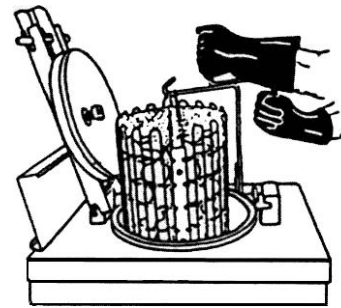

FIGURE 19
DANGER: Use safety gloves and basket drain hook to lift basket out of cooking oil and drain. (FIG 19). Press channel key (2HD, 4HD, etc.) to cancel buzzer.